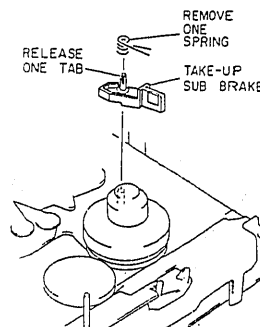

Fig. 2-72
1. Remove the spring between the chassis and take-up sub brake. (See Fig. 2-72)
2. Release one (1) tab and pull out the take-up sub brake from the chassis.